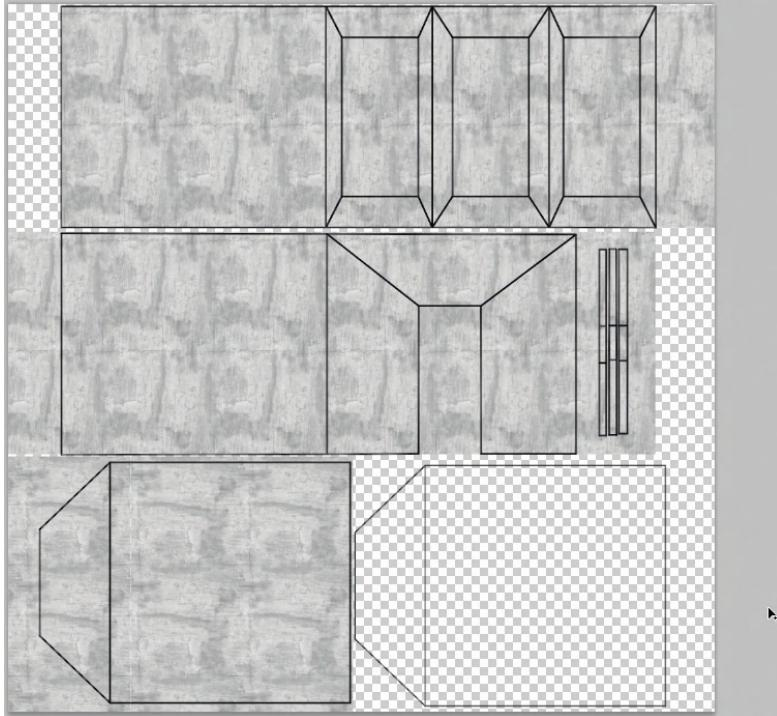

FIG 6.5 Plaster base laid out for all surfaces but the floor.
Step 11: Duplicate plaster base for the ceiling. In my UV snapshot, this is the shape in the bottom left. If you're unclear which is which in yours, just open your scene in Maya, select the faces you're after, and then in the UV Texture Editor look at which are highlighted. At this point, there should be plaster base for all the walls and the ceiling (Fig. 6.5).